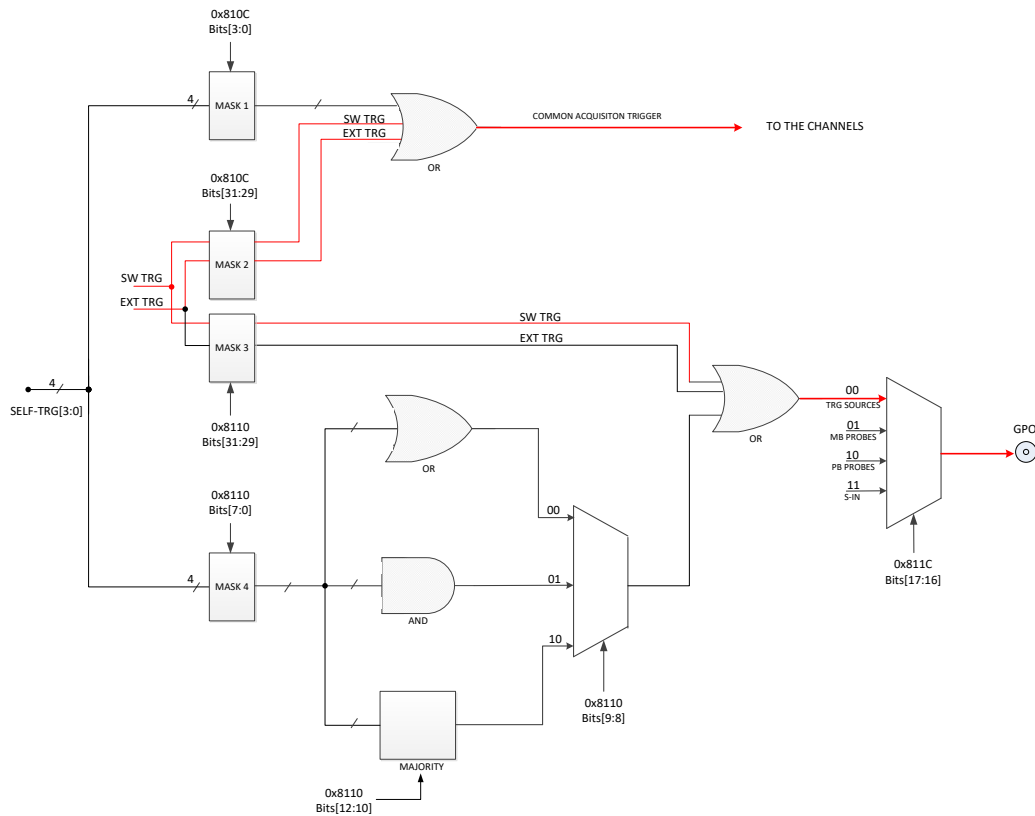

Fig. 7.18: Trigger configuration of TRG-OUT front panel connector.
As described in Sec. **Trigger Management**, the OR of all the enabled trigger sources, synchronized with the internal clock, becomes the common trigger of the board that is fed in parallel to all channels, consequently causing the capture of an event. By default, only the Software Trigger and the External Trigger participate in the common acquisition trigger (refer to the red path on top of Fig. 7.18).
- the OR of all the enabled trigger sources (only the Software Trigger is provided by default, as in the red path of Fig. 7.18);